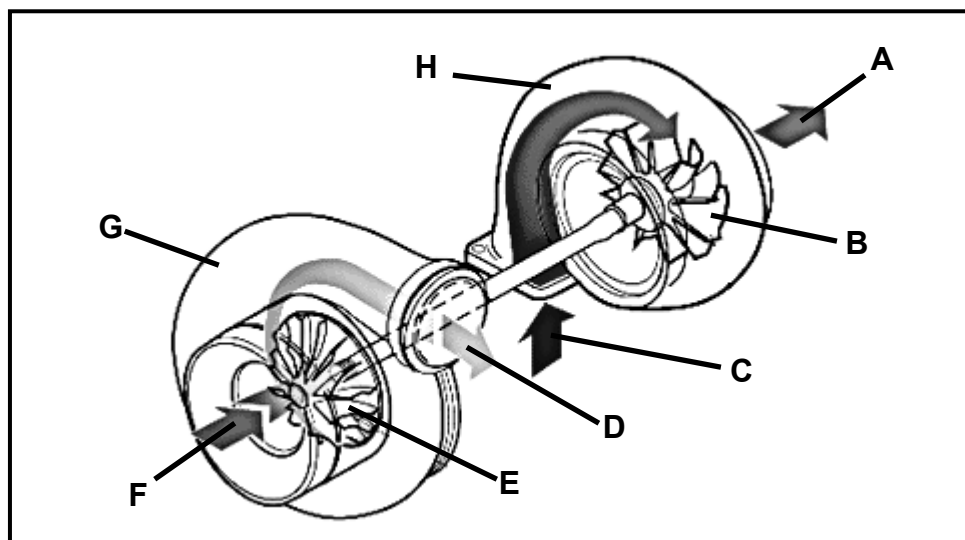

FIGURE 5.1
- 5.7 FIGURE 5.1 below shows the internal components of a turbocharger. Answer the questions that follow.
- 5.7.1 Label the components of the turbocharger marked **A–H** in FIGURE 5.1 above. (8)